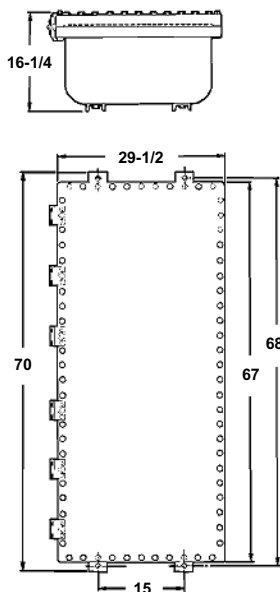

Figure 1
2. Select a mounting location that will provide suitable strength and rigidity to support the enclosure and all contained wiring and control devices. Figure 1 shows the enclosure mounting dimensions.